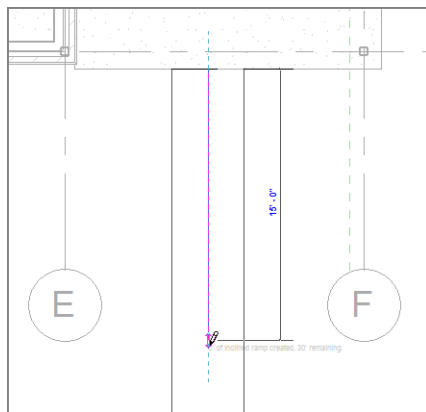

FIGURE 10.86: Pick the first point on the landing, and then move your cursor down 15'-0" (4500mm).
17. In the model, click the first point for the ramp, similar to the point shown in Figure 10.86. (You have to place the point near the mid-point. Revit doesn't allow you to snap while in Sketch Mode.)
18. Move your cursor down the view (south) 15'-0" (4500mm), as shown in Figure 10.86. (You'll see the temporary dimension.)